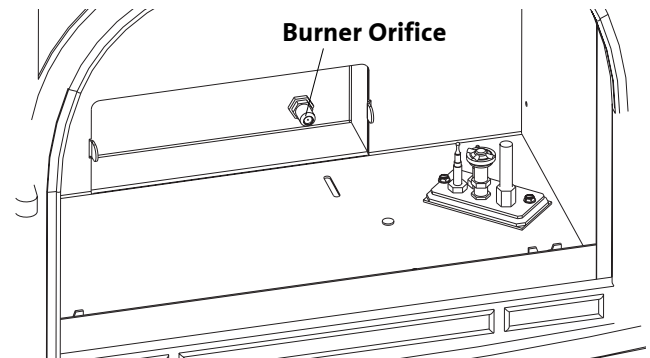
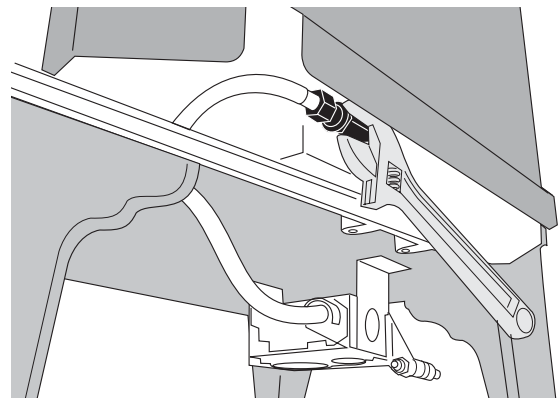

Figure 24. Change the Burner Orifice.
Figure 24a. Counter-lock the orifice elbow while removing the burner orifice.
8. Change the Main Burner Orifice. See fig. 24. Using a  $\frac{1}{2}$ " open ended wrench or deep-well socket remove the burner orifice from its brass elbow housing and replace with the appropriate orifice supplied in the kit. While removing the orifice, use an adjustable wrench to counter-lock the orifice elbow at the back of the firebox as shown in fig. 24a.